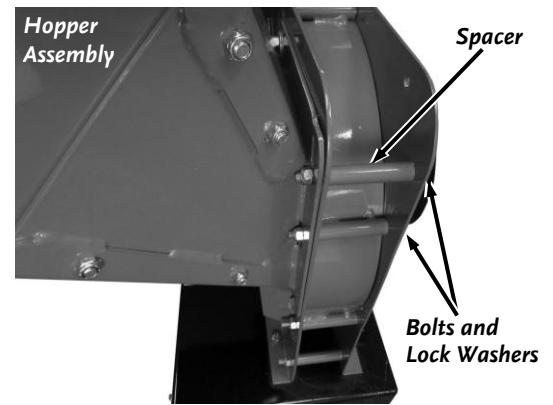

Figure 29
- Remove the two front Locknuts from the Hopper Assembly but leave the Bolts and Spacer in place (**Figure 29**).